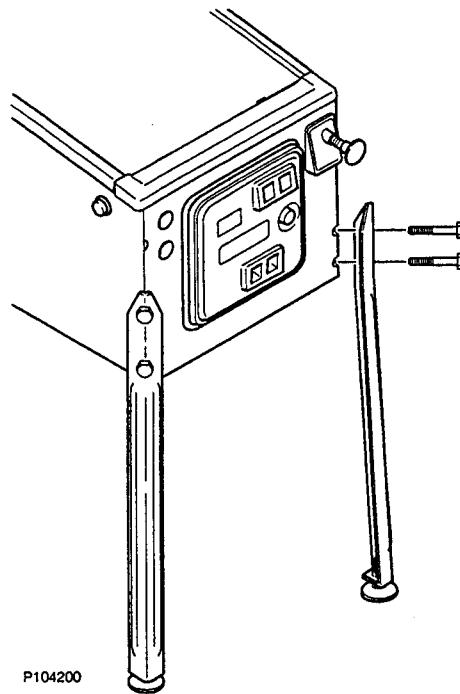

FIGURE 8: INSTALLING LEGS ON CABINET
- 9) Carefully lift the front of the cabinet and place on a sturdy support. Attach the front legs using two acorn-head bolts. Tighten bolts firmly (see Figure 8).